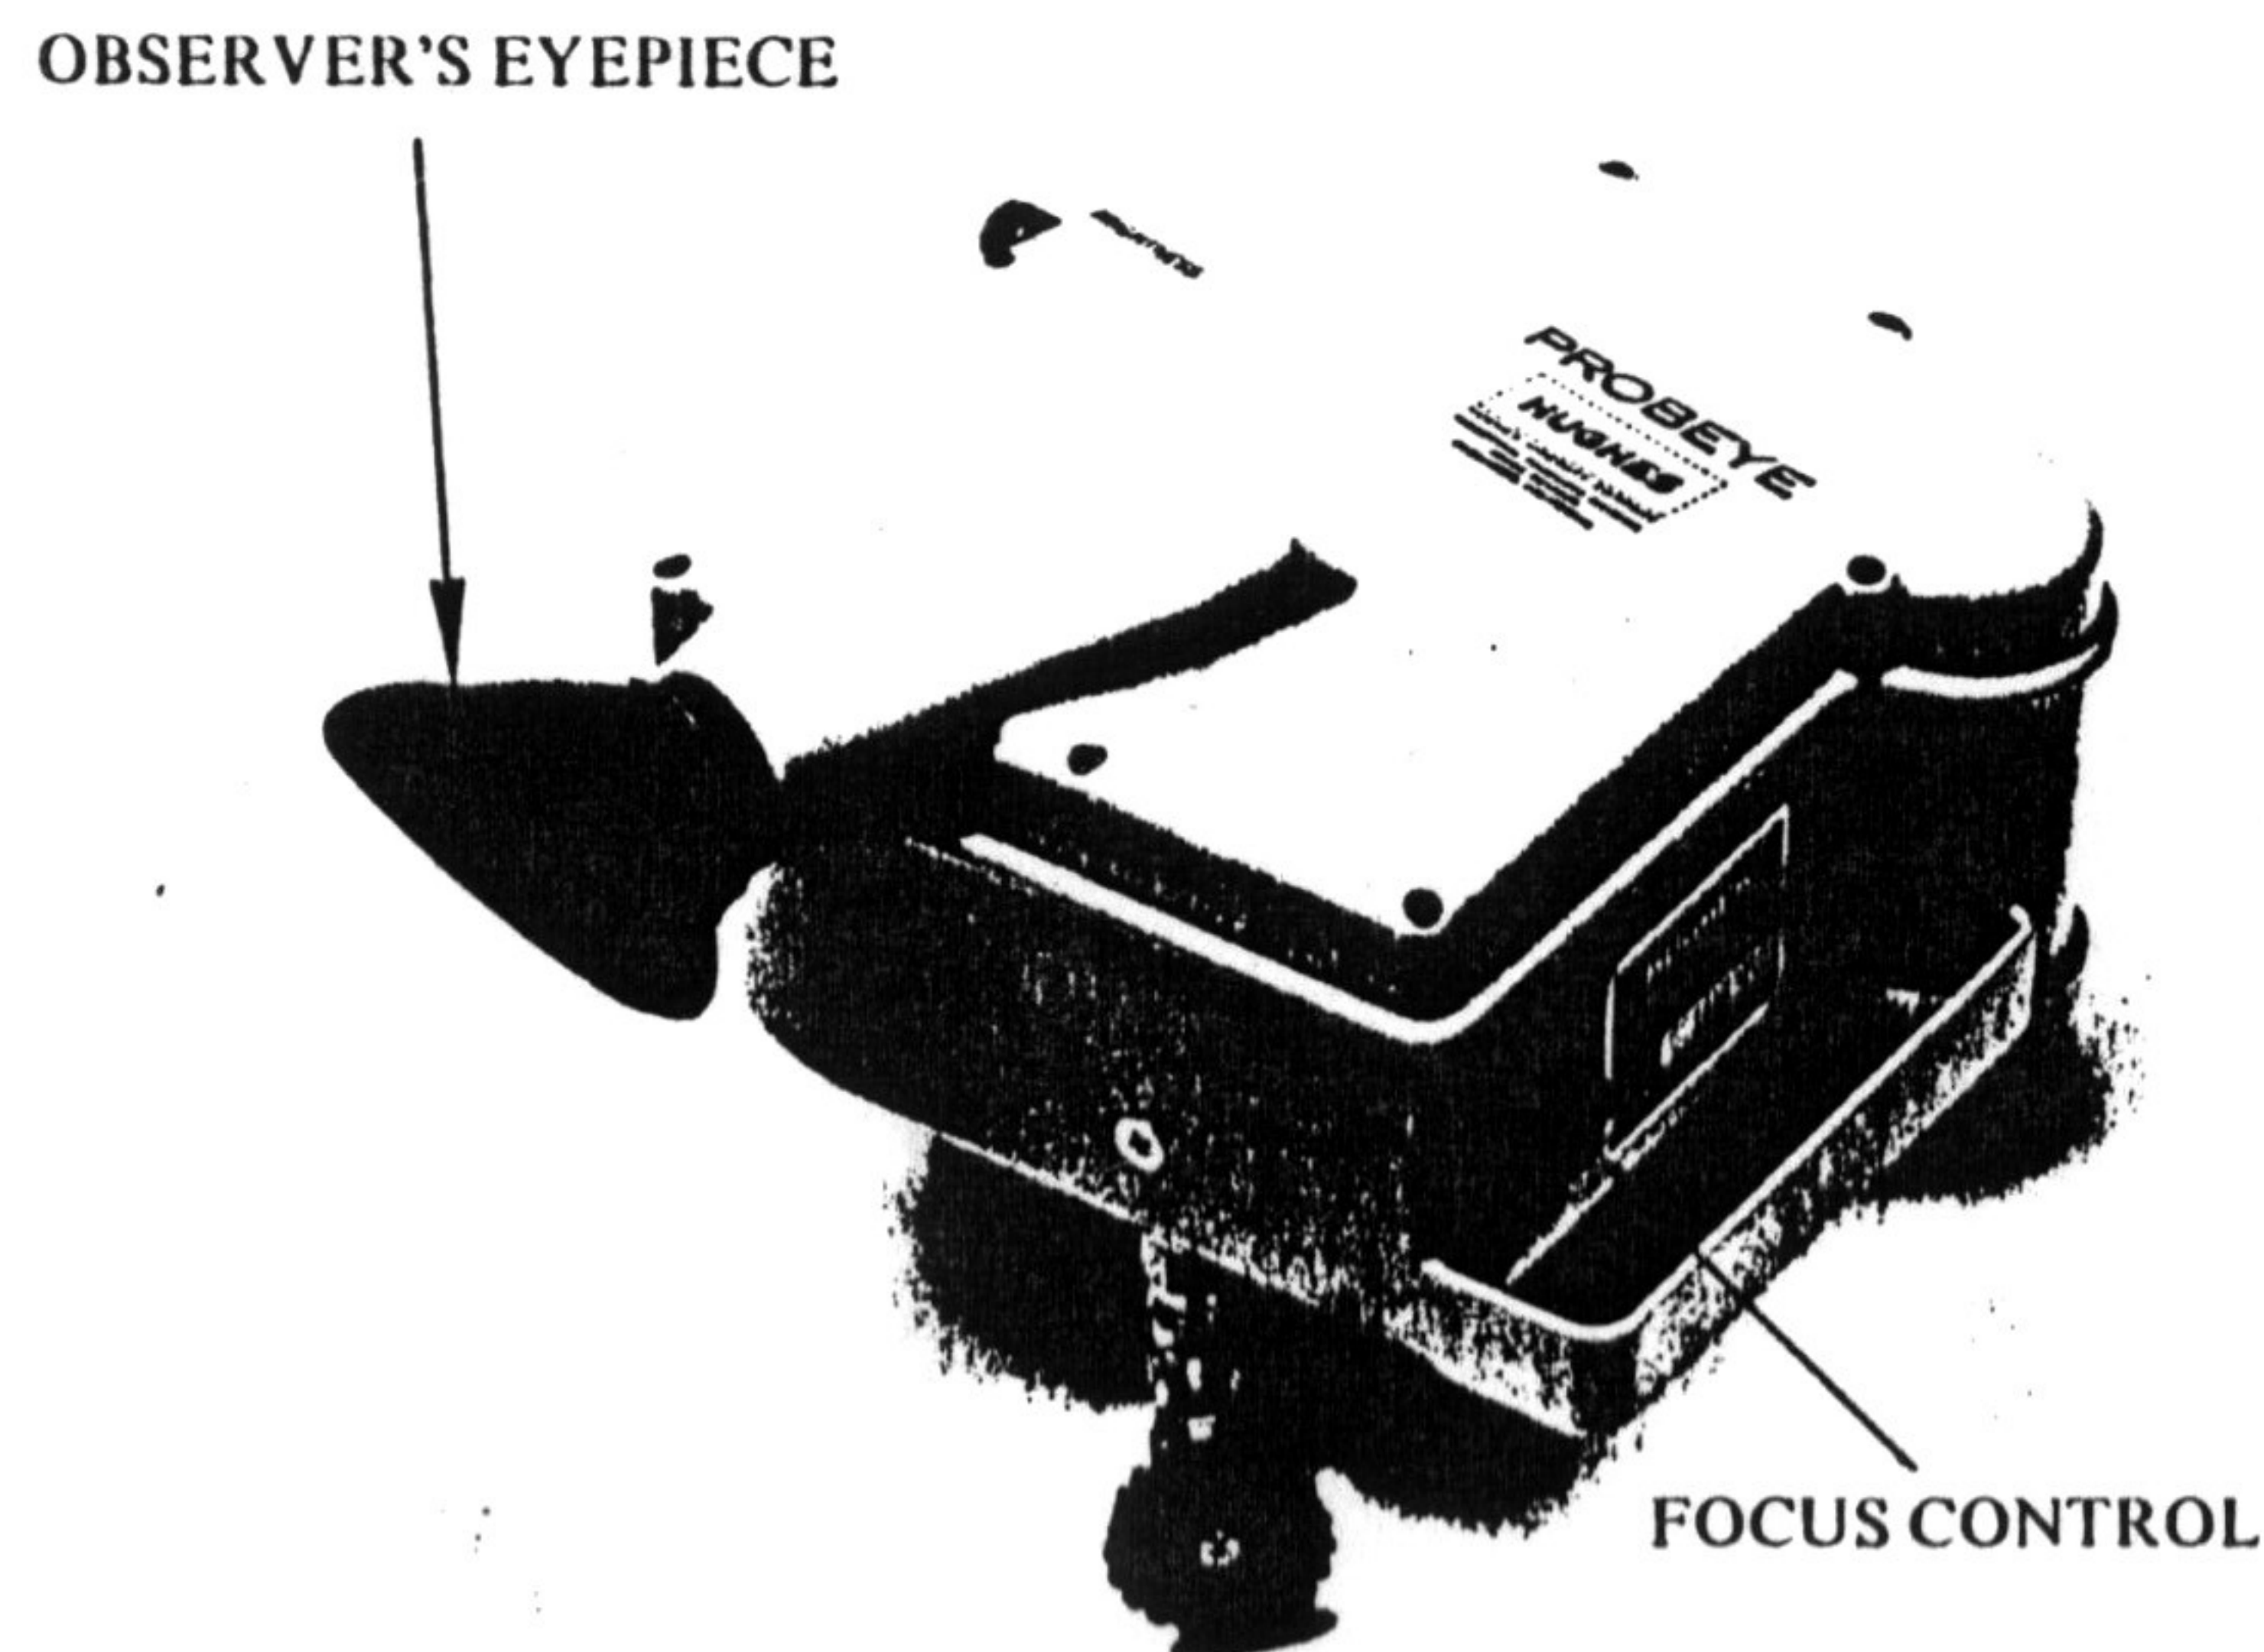

FIGURE 4
- H. Adjust the FOCUS control on the right side of the housing (Fig. 4), for the sharpest possible thermal image.